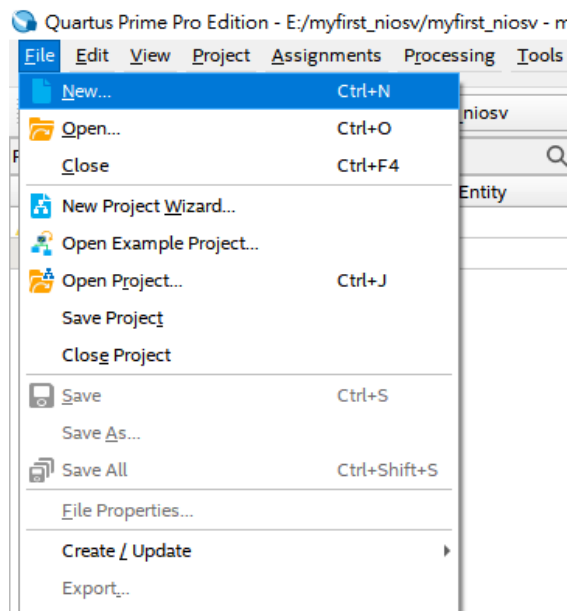

Figure 2-31 New Verilog file
1. In **Quartus**, choose **File > New** to open new files wizard. See Figure 2-31.